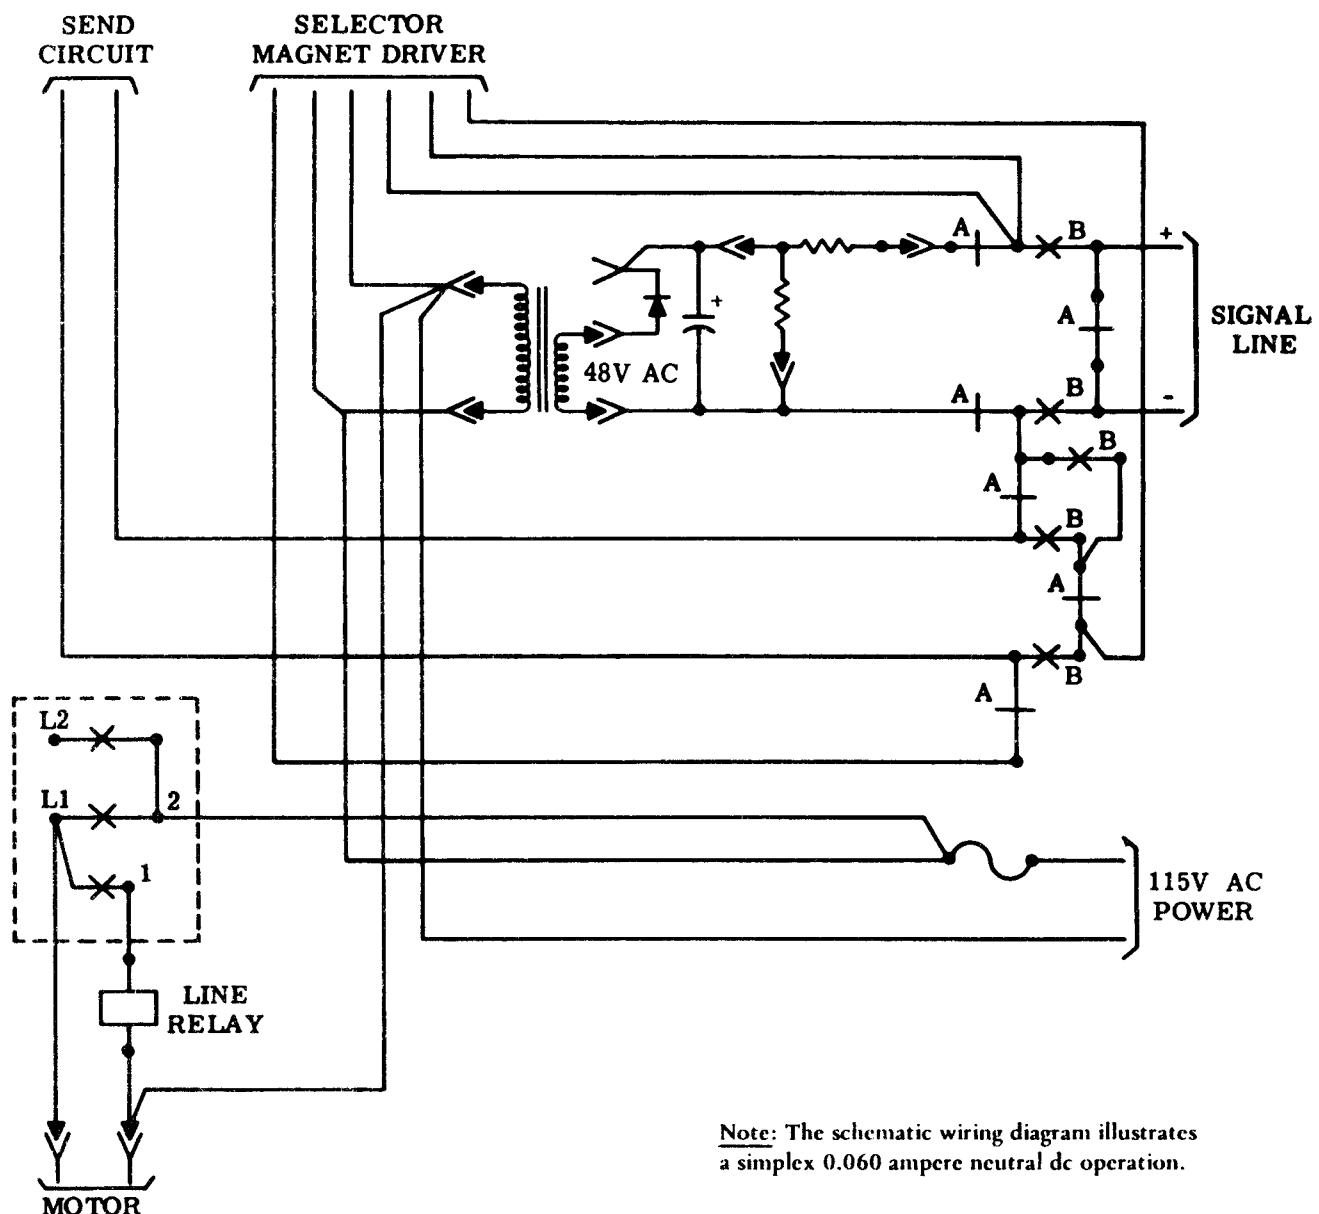

Figure 13 - Rotary Power Switch and Local Power Supply Circuit
**4.03** The 3-position rotary switch (electronically shown in Figure 13) is the only manual control on the call control unit. Through its operation the teletypewriter can be (1) placed in the external signal line loop for communication with other teletypewriters, (2) removed from the external signal line loop for local operation, or (3) placed in the off condition.